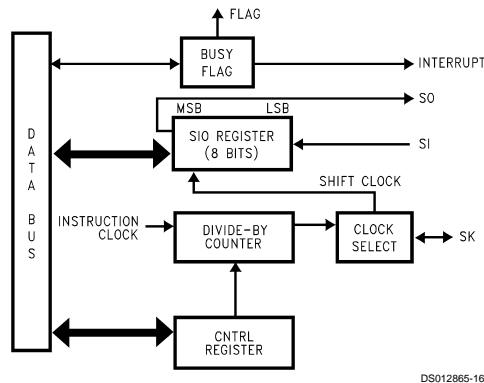

FIGURE 17. MICROWIRE/PLUS Block Diagram
MICROWIRE/PLUS is a serial synchronous communications interface. The MICROWIRE/PLUS capability enables the device to interface with any of National Semiconductor's MICROWIRE peripherals (i.e. A/D converters, display drivers, E2PROMs etc.) and with other microcontrollers which support the MICROWIRE interface. It consists of an 8-bit serial shift register (SIO) with serial data input (SI), serial data output (SO) and serial shift clock (SK). *Figure 17* shows a block diagram of the MICROWIRE/PLUS logic.